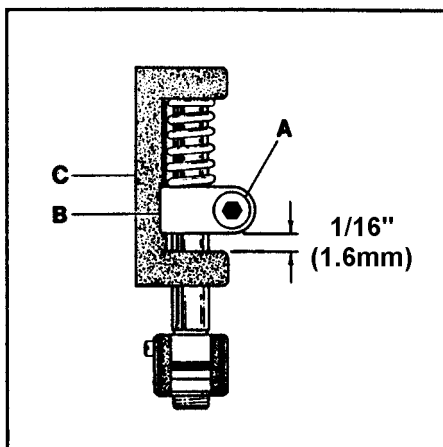

FIG. 31
To set spring pressure between the knives loosen screw (A, Fig. 31) and raise knife holder guide collar (B) 1/8" (3.2mm) from knife driving bracket (C). Tighten screw (A).